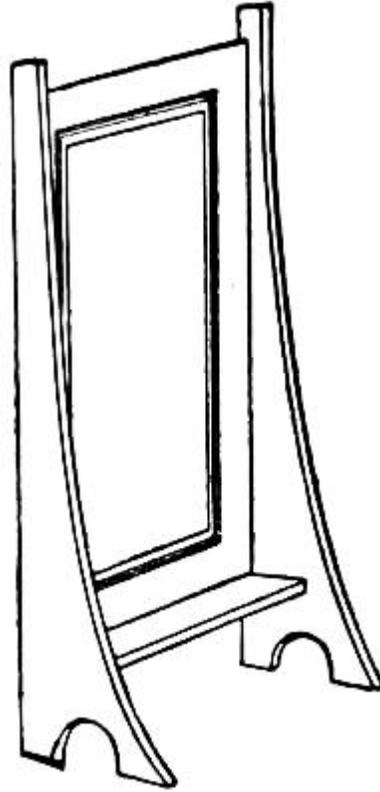

FIG. 133.—A Mirror.
**A Mirror** in a frame should be made for the living-room of the doll-house. A neat and suitable design for one of these will be seen in Fig. 133. For its construction cut two sides by means of the pattern in Fig. 123, a piece five inches long by three inches wide for the back, and a strip three inches long by three-eighths of an inch wide for a shelf. Fasten the sides to the edges of the back-piece, and the shelf between the sides about three-quarters of an inch above the base. Now procure a mirror such as you can buy in a toy-shop for five or ten cents (or a piece of a broken mirror cut down to the right size will do very nicely), and attach it to the centre of the back.